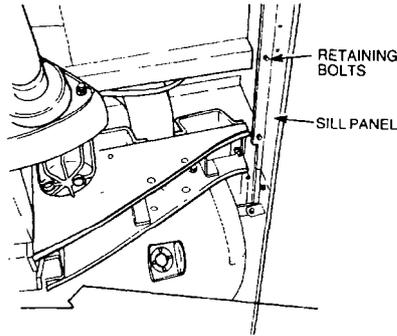

Figure 315 Removing the Sill
- dd. Remove the bolts, nuts and washers securing both sill panels to the body and stay (Figure 315); remove the plastic clips securing the wheel arch extensions to the sills and remove the sills.